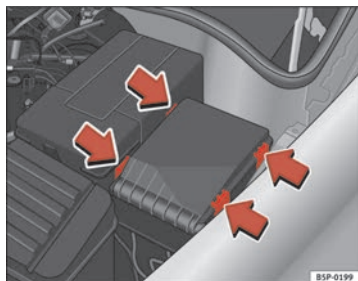

Fig. 178 Fuse box cover in engine compartment
- Prise off the fuse cover in the engine compartment by pressing the tabs towards the centre of the cover ⇒ **fig. 178**.